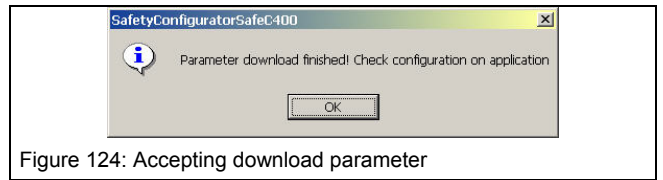

Figure 124: Accepting download parameter
17. Only now is the configuration accepted by the SafeC. The information window shown in Figure 124 shows confirmation of successful activation.